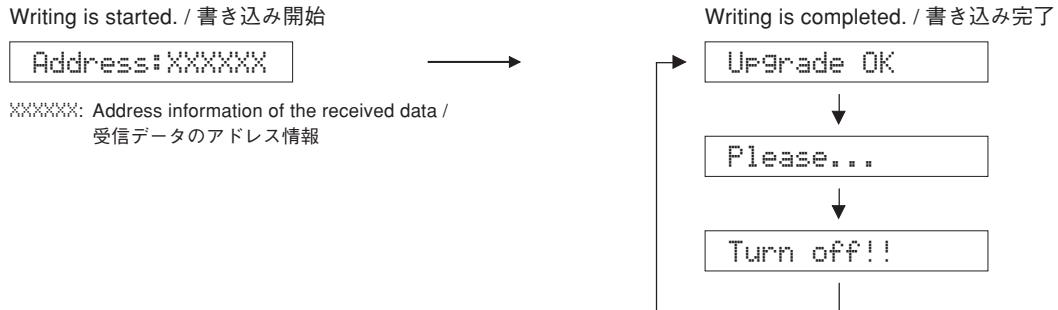

Fig. 3
Then writing of the firmware is started. (Fig. 3)
8. When writing of the firmware is completed, "Upgrade OK", "Please..." and "Turn off!!" are displayed repeatedly. (Fig. 3)
フームウェアの書き込みが開始されます。(Fig. 3)
8. フームウェアの書き込み完了後、“Upgrade OK”, “Please...”、“Turn off!!”が繰り返し表示されます。(Fig. 3)